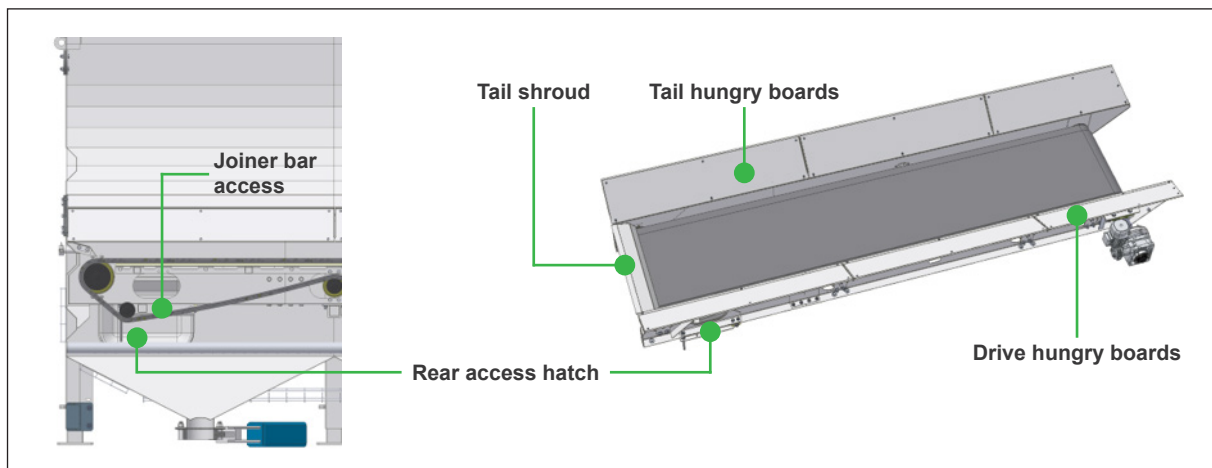

Figure 6 - Joiner bar access
6. Remove hungry boards (Figure 6) on either side of the floor conveyor tail and the drive side of the floor conveyor head.
7. Remove the floor conveyor tail shroud (Figure 6).